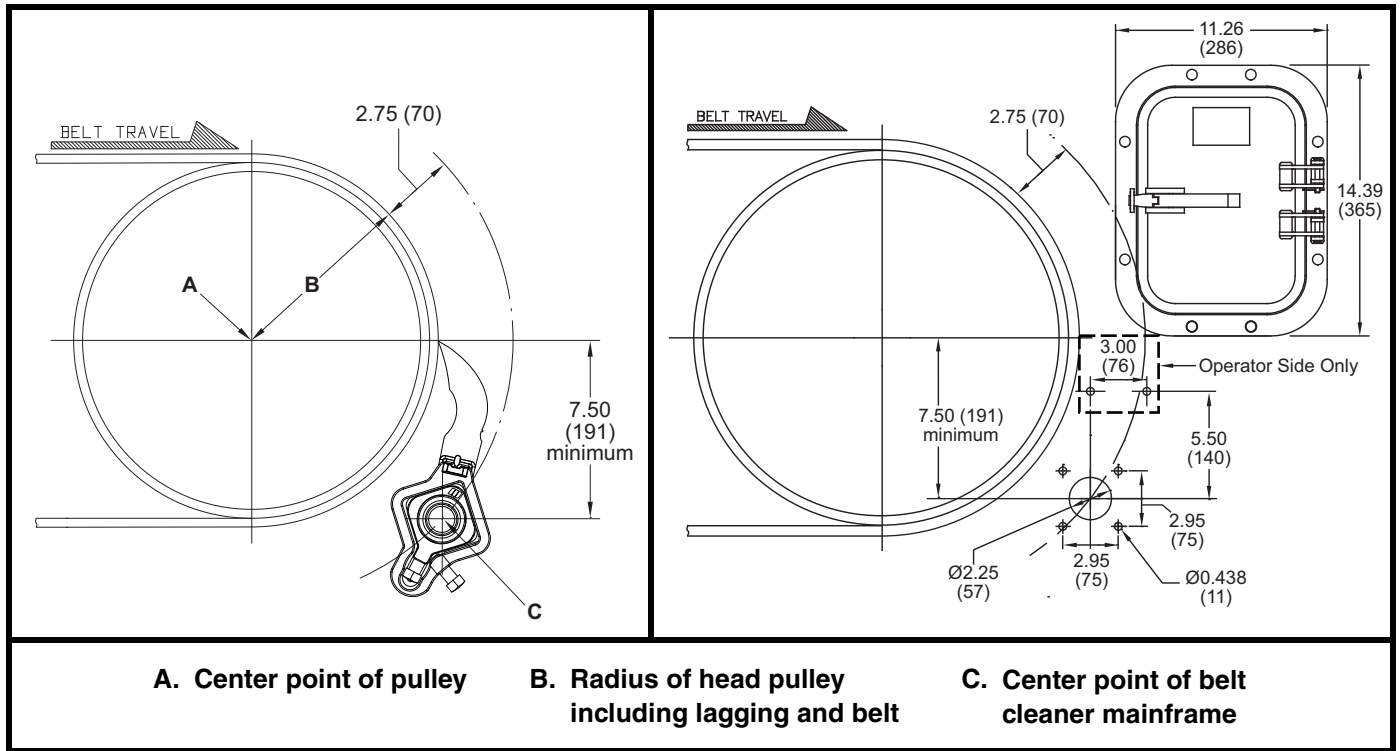

Figure 4. Belt Cleaner Mainframe Location & Chute Wall Cutouts for Martin® PV QB1™ Cleaner with Martin® Spring Cable Tensioner
1. On operator side of chute, find pulley center point (A).
2. Measure radius of head pulley including lagging and belt thickness (B). To this dimension, add 2.75 in. (70 mm).
3. Starting from center point (A), measure the total distance calculated in step 2 (B + 2.75) and draw an arc on chute wall.
4. Measure down from pulley's horizontal centerline the distance shown in Figure 4 and draw a horizontal line parallel to it. Locate center point of belt cleaner mainframe (C) where this line intersects the arc on the chute wall.